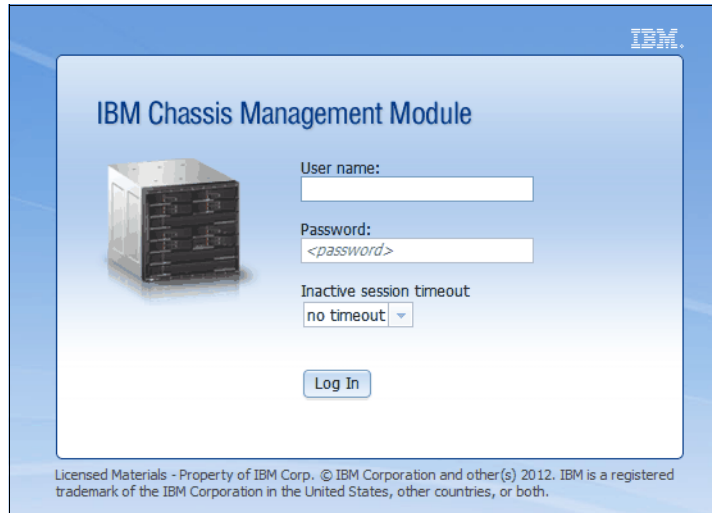

Figure 3-5 IBM Chassis Management Module Login screen
2. At the Login screen, enter your User name and Password, and set the Inactive session time-out value, as shown in Figure 3-5 on page 91.